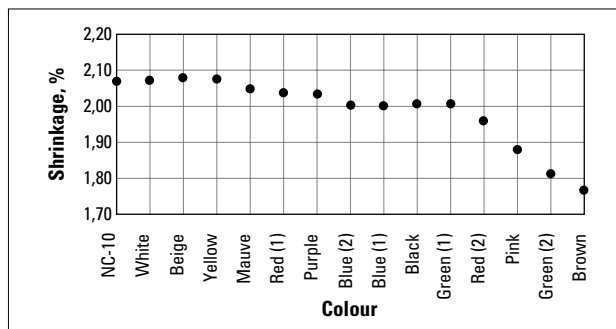

Fig. 6.04 Effect of selected pigments on mould shrinkage of DELRIN® 500. Part thickness 2 mm
An accurate study has been carried out to evaluate the effect of various types of pigments on the mould shrinkage of DELRIN®. It appears, as depicted in Fig. 6.04, that pigment systems giving the same resin colour may have a different effect on mould shrinkage and part dimensions.
- Different colouring systems (even those giving the same colour) could cause different shrinkage's, as can be seen from Fig. 6.04. Part dimensions should be checked in the small scale tests.